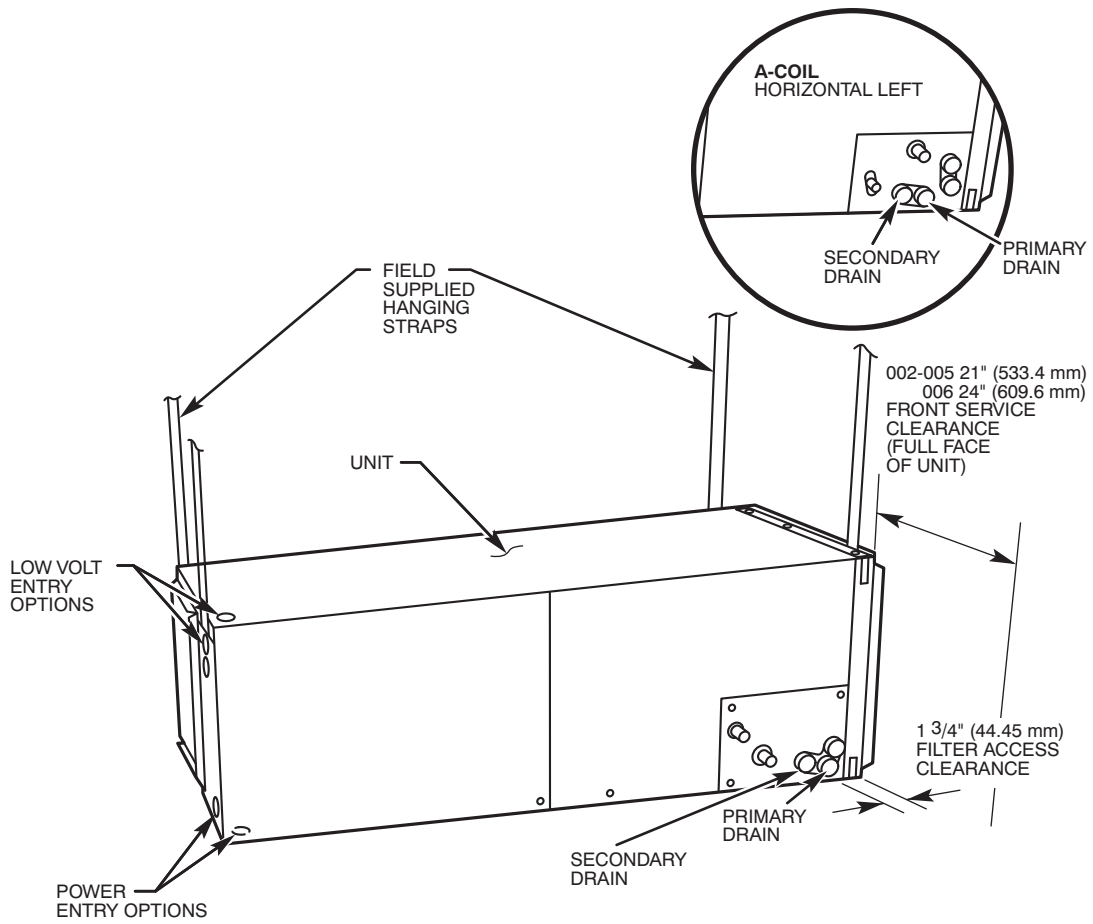

Fig. 2 – Slope Coil in Horizontal-Left Application (Factory Ready FE4A only)
2. When suspending unit from ceiling dimples in casing indicate proper location of screws for mounting metal support straps. (See Fig. 2.)